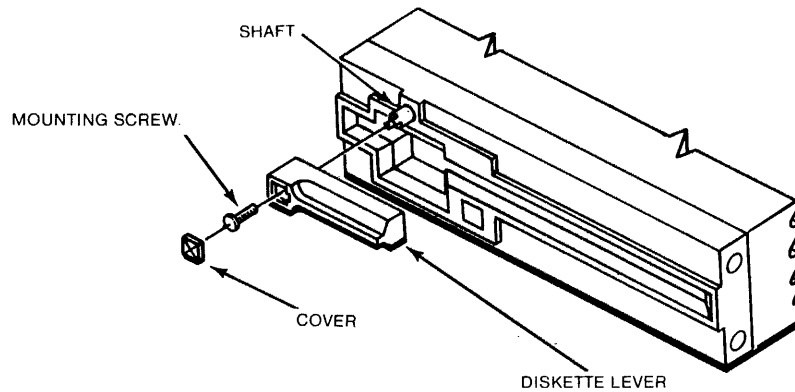

Figure 5-6
- A. Pry off the cover that hides the diskette lever's retaining screw (see Figure 5-6).